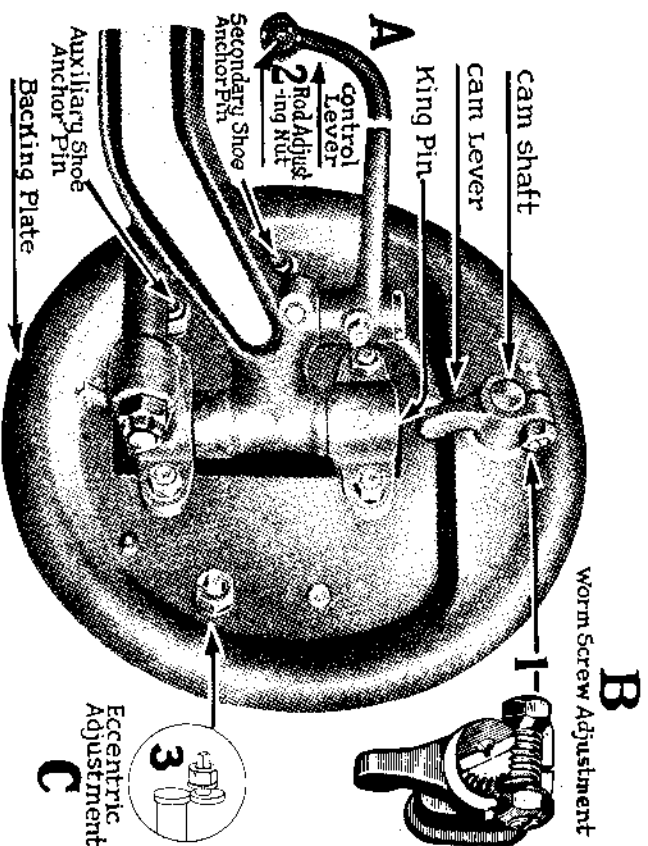
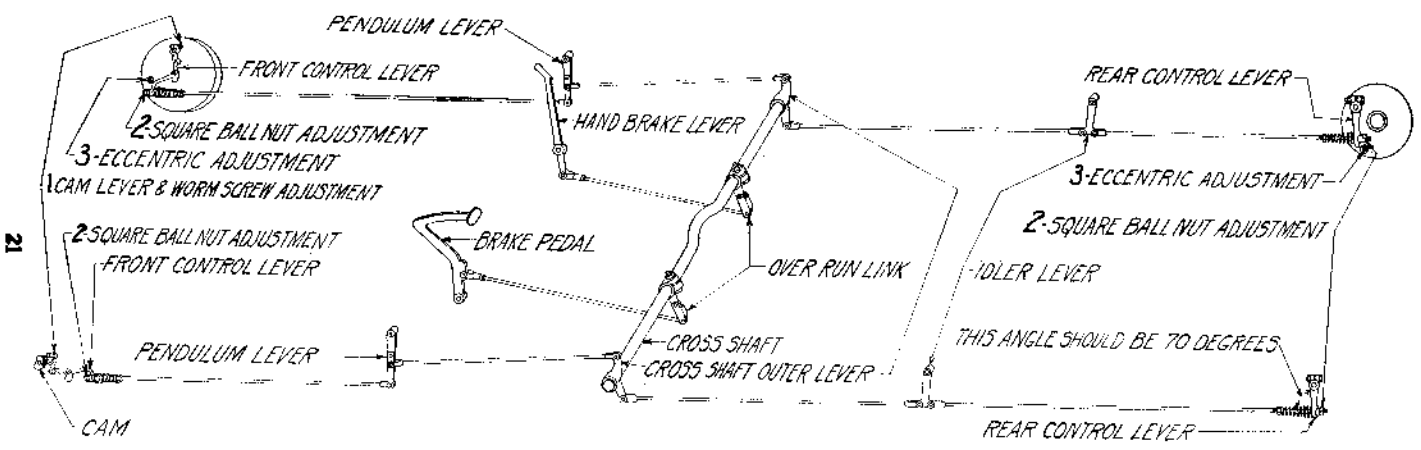

Fig. 5.—Lever Control Assembly
Fig. 7—Brake Control
Pressing down on the foot brake pedal or pulling back on the hand brake lever (See Fig. 7), operates in unison all four brakes.
Both the foot brake pedal and hand lever brake are connected, by separate pull rods, to the cross-shaft located just back of the center cross-member of the frame. Mounted on both outer ends of cross-shaft are double levers, known as over-running links to which are attached two pull rods that operate the shoe controls of the front and rear brakes. (See Fig. 7.)
Wear, B. Loosen lock nut on worm screw adjustment (1) (Fig. 5 and 7) and turn slot to right until brake shoes are free.
C. Loosen eccentric lock nut (3) (Fig. 5 and 7) at front wheels and turn eccentric in same direction in which wheel revolves when car moves forward, until brake is tight against drum, then back off gradually until wheel is just free. Hold eccentric and tighten lock nut.
D. Turn worm screw (1) (Fig. 5 and 7) to left until brake binds, then back off until wheel is just free. Tighten lock nut.
Brake Ad- A. Loosen eccentric lock nut (3) (Fig. 5 and 7) adjustment at rear wheels, and turn eccentric in same direction for Wear, in which wheel revolves when car moves forward, Rear until brake is tight against drum, then back off Wheels gradually until wheel is just free. Hold eccentric and tighten lock nut.
B. Angle of control levers with brake rods should be from 60 to 70 degrees with the brakes released, otherwise reset as follows: Loosen pinch bolt and slide lever off serrations. Slack off square ball nut (2) (Fig. 5 and 7) to end of thread on rod. Apply brake with Stillson wrench on camshaft and slip control lever on serrations. If brake is too tight move lever back one serration. Tighten pinch bolt. Control levers should have approximately the same angle with the rod on both brakes. (Fig. 7.)
C. Take up square ball nuts (2) (Fig. 5 and 7) until wheels just drag. Back off until wheels are just free. (Fig. 7.)
Equal- D. Equalize all four wheels as follows: Push pedal down with block or jack to within 3" of floor board or until the tightest wheel can be just turned by hand. Slack off tight wheels one-half turn at a time at the rod adjusting nut (2) (Fig. 5 and 7) on all four wheels, until all four are the same, remembering that a change in the rear brake may affect the front brake on the same side and vice versa. (See Fig. 7.)
Major Anchor pins should be adjusted only, (a) When fitting newly lined shoes, (b) When anchor pin nuts are found loose, (c) When other adjustments fail to give satisfactory results. (See Fig. 7.)
To adjust anchors: Jack up all four wheels. Turn eccentric adjustment (3) (Fig. 5 and 7) away from articulating pin and